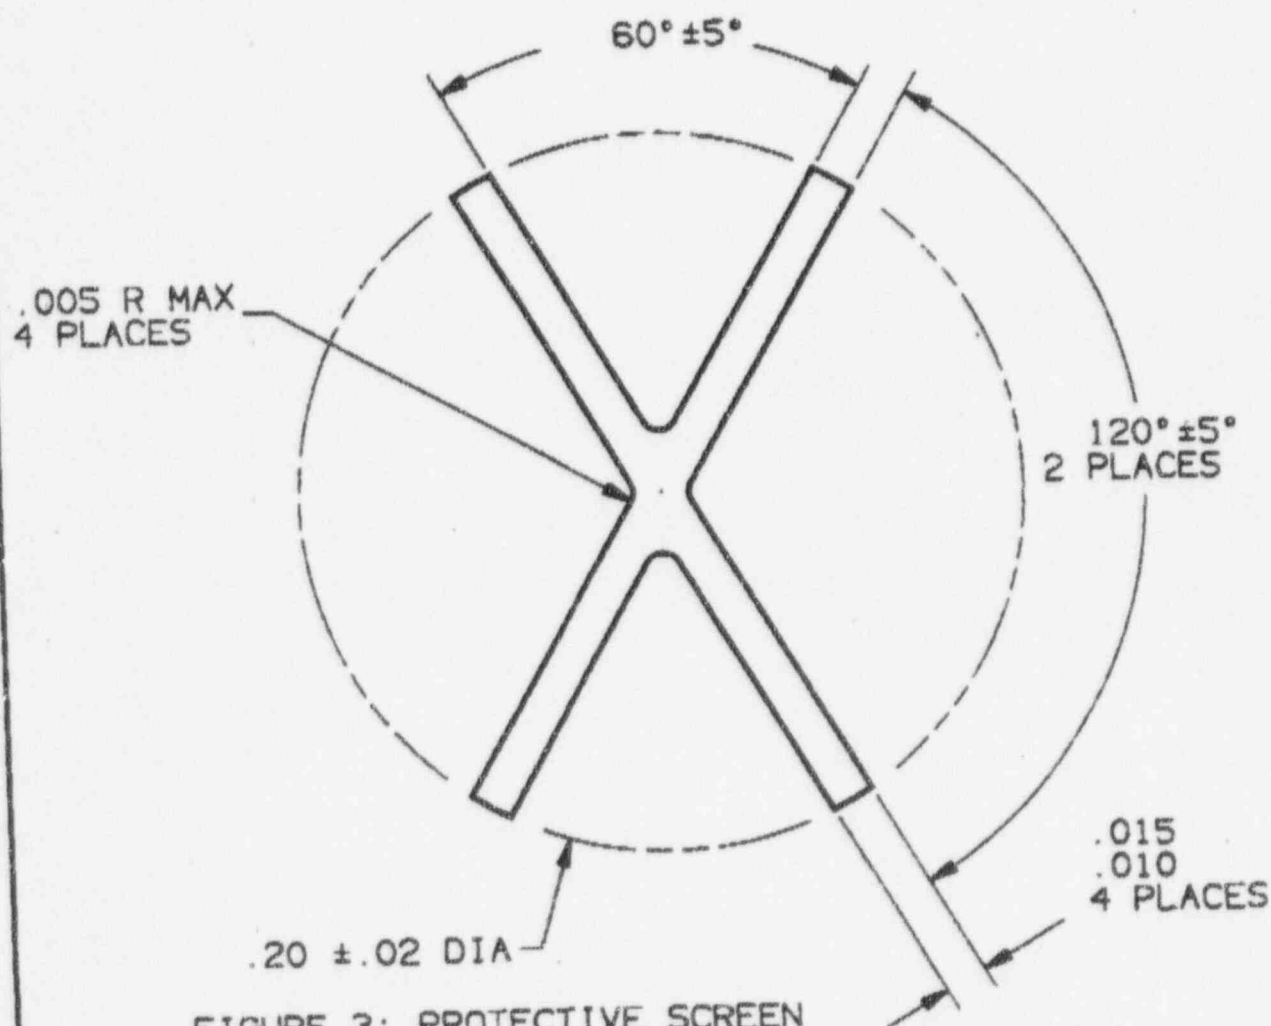

FIGURE 3: PROTECTIVE SCREEN
3.2.2 Source Assembly. The source assembly shall be assembled as shown in Figure 1. The source shall be retained within the holder, Figure 2, using 5 crimps as specified in 4.2.2. The protective screen as detailed in Figure 3 shall be held in place using 4 tack bonds of either Hysol (CAGE 04347) products division adhesive 1C, or 3M (CAGE 04963) 2216B/A structural adhesive. The tack bonds shall be uniform in appearance and shall not mask the active area exposed by the foil source.
3.2.2.2 Protective screen. The protective screen shall be in accordance with Figure 3.